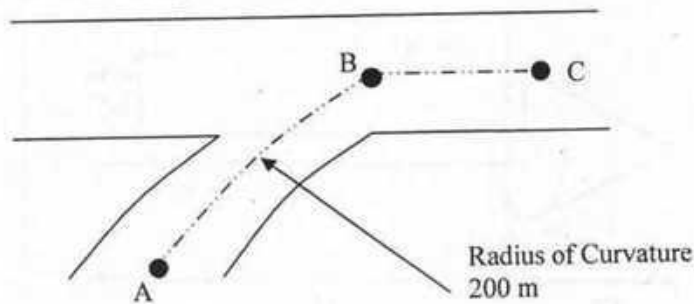

FIGURE 5
5. The motion of a particle is defined by the following equation $x = 6t^4 - 2t^3 - 12t^2 + 3t + 3$, where x and t are expressed in feet and seconds, respectively. Determine (10)
6. A motorist starts from rest at Point A, as shown in FIGURE 5, on a circular entrance ramp when $t = 0$, increases the speed of her automobile at a constant rate and enters the highway at Point B. Knowing that her speed continues to increase at the same rate until it reaches 180 km/h at Point C, determine (a) the speed at Point B, (b) the magnitude of the total acceleration when $t = 14$ s. (10)